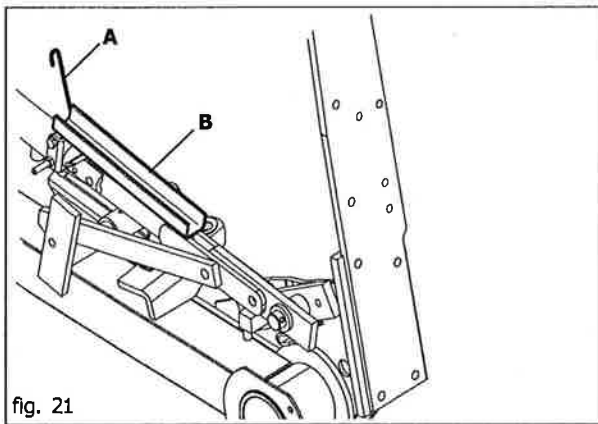

fig. 21
For mowing operations on sloping ground, disengage the lifting device as shown in figures 21 and 22:
1) Put the cylinder bracket (B Fig. 21 and 22) behind the spring (A Fig. 21 and 22).